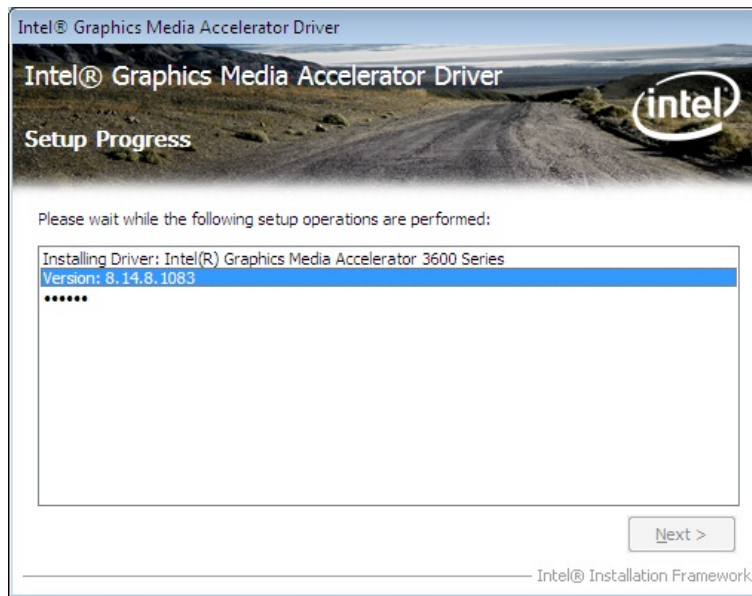

Figure 6-10: Graphics Driver Setup Operations
Step 12: Setup Operations are performed as shown in **Figure 6-10**.